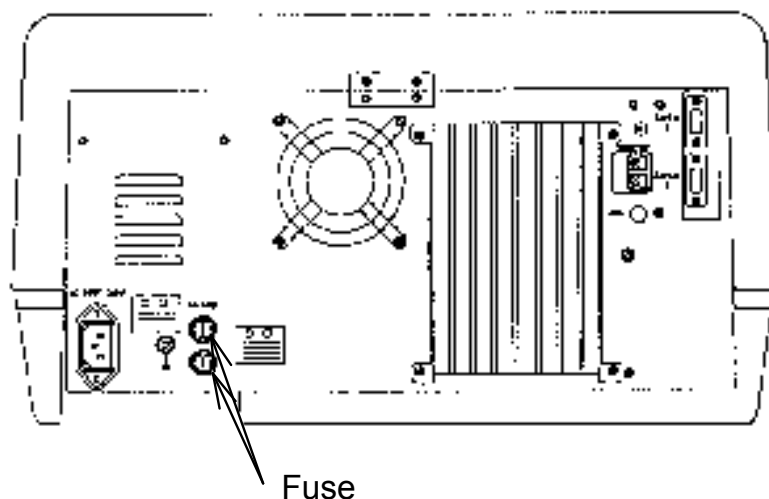

Figure 4.7 V-550/560/570 rear panel
- (1) Turn off the power and unplug the AC power cable from the outlet.
- (2) Insert a flat-headed screwdriver into the fuse holder at the rear of instrument (Fig. 4.7). Push and turn about 90° counterclockwise to remove the fuse holder and fuse.
- (3) Remove the old fuse and insert a new fuse into the holder. Replace the fuse holder, and push and turn the holder 90° clockwise to lock.
- (4) Plug the power cable into the electrical outlet and turn on the power to operate the unit.